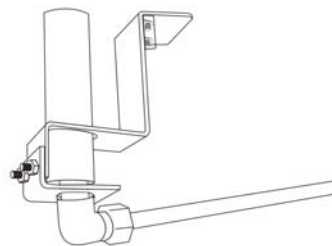

**Figure 14**
2. Disconnect the gas tube from the orifice and remove the orifice holder as shown in Fig. 14.